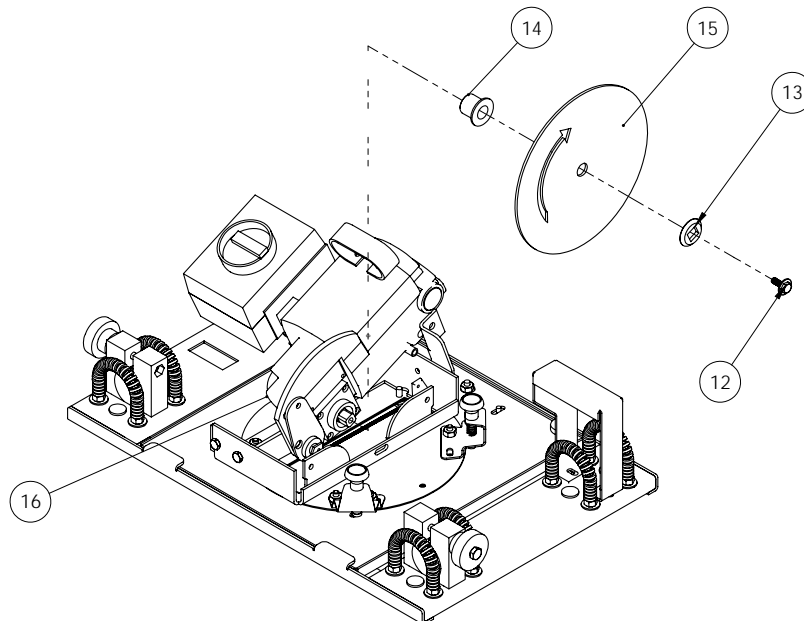

Figure 26: Installing a Saw Blade (SR5U & SR5UA)
3. First tighten the carriage lock, then while holding the spindle lock "in" (Fig. 26, #16) (located on the bottom side of the motor) remove the blade bolt by turning it **clockwise**, using the included ½" wrench. Remove the outer blade flange (#13), but leave the inner blade flange (#14) on the spindle.
4. Install the blade with the arrow pointing clockwise as shown (Fig. 26, #15).